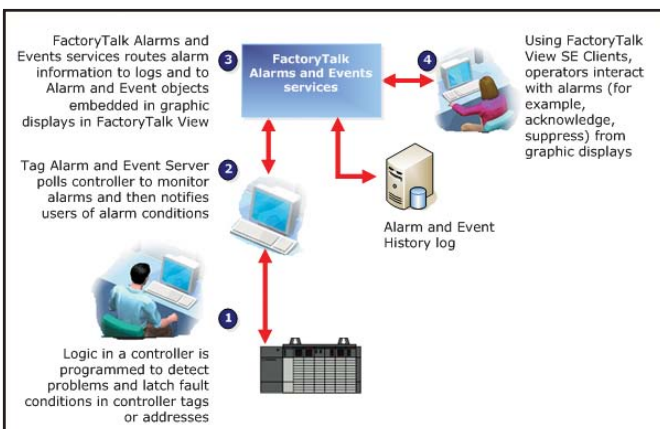

Figure 3. Tag-based alarms
- **Tag-based Alarms** — Software-based alarm servers monitor data tags for alarm conditions and publish event information for display and logging (Figure 3). Tag based alarm monitoring is supported by Logix controllers, PLC-5 controllers, SLC 500 controllers, or any third-party device through OPC Data Access (OPC-DA).